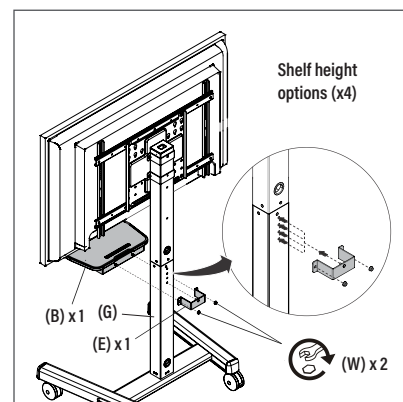

Figure 11
The shelf assembly (B) can be installed in four different positions to achieve the desired height. (See Figure 11) To lower column (G) using one connector - stud (E) and two 5/16-18 flange nuts (W).